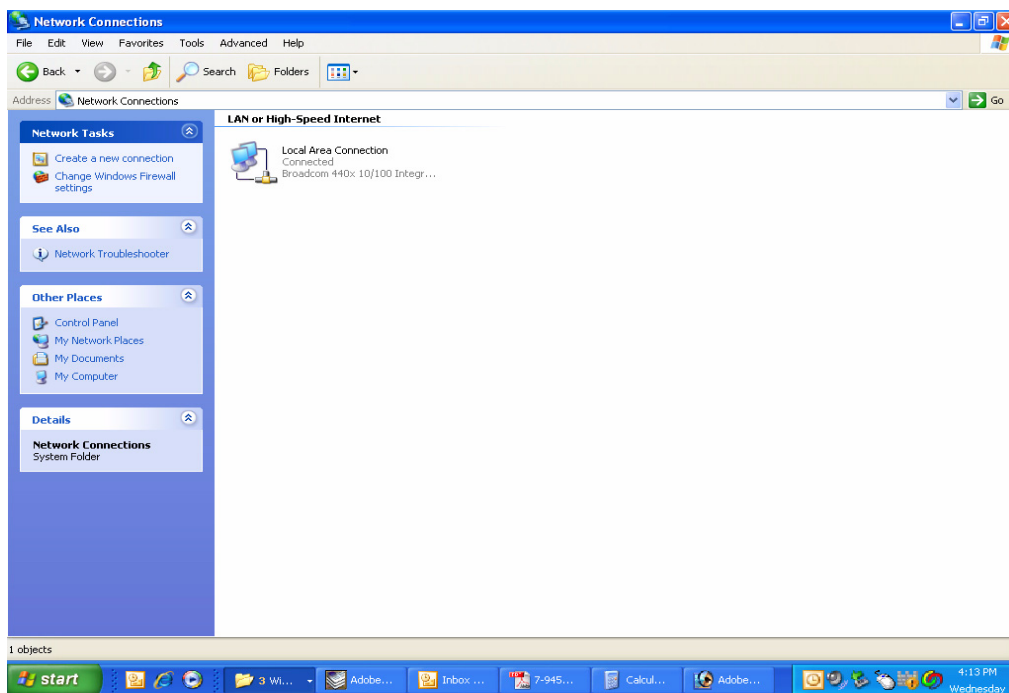

Figure B3: Select the “Local Area Connection” icon.
- 4) When the “Network Connections” folder opens double click on the “Local Area Connection” icon. See **Figure B3**.